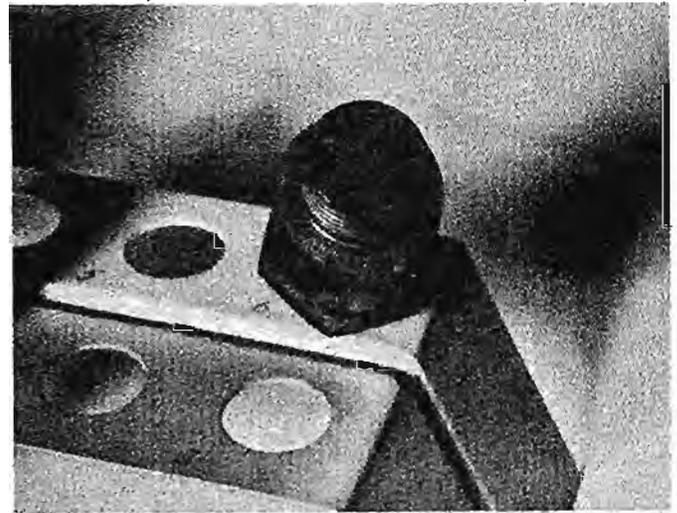

Fig. 40 Petrol fouling indicated by a dry fluffy black deposit on the Insulator.
- (c) Next, look for petrol fouling indicated by a dry fluffy, black deposit (Fig. 40). This is caused by many things--faulty carburation, ignition system, defect in battery, distribution coil or condenser, broken or worn-out cable.